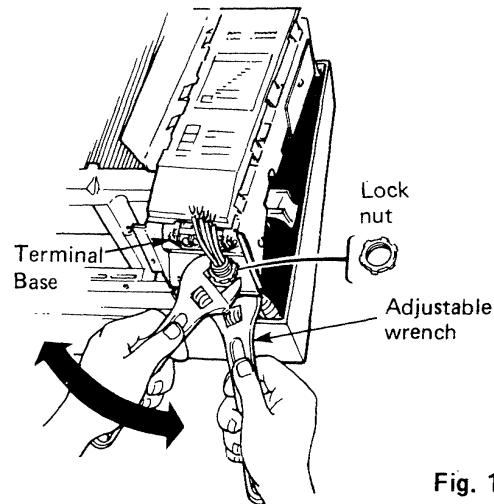

Fig. 17
- e) Lift up the underside of the electrical component box slightly and secure the conduit connector to this box with a lock nut. Fig. 17